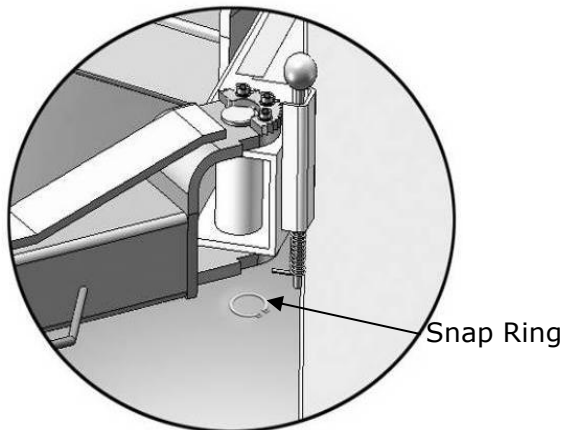

Fig. 23
1. After installing the lifting arms (See Fig.23).